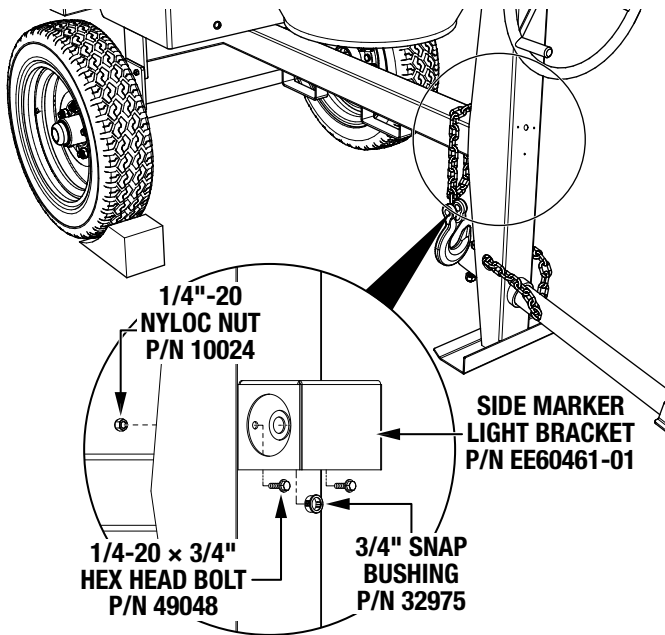

Figure 11. Side Marker Light Bracket Installation
4. Secure the side marker light bracket (P/N EE60461-01) to the mixer stand with two 1/4-20 × 3/4" hex head bolts (P/N 49048) and two nyloc nuts (P/N 10024). See Figure 11.
5. Insert a 3/4" snap bushing (P/N 32975) into the newly drilled 3/4-inch hole. See Figure 11.